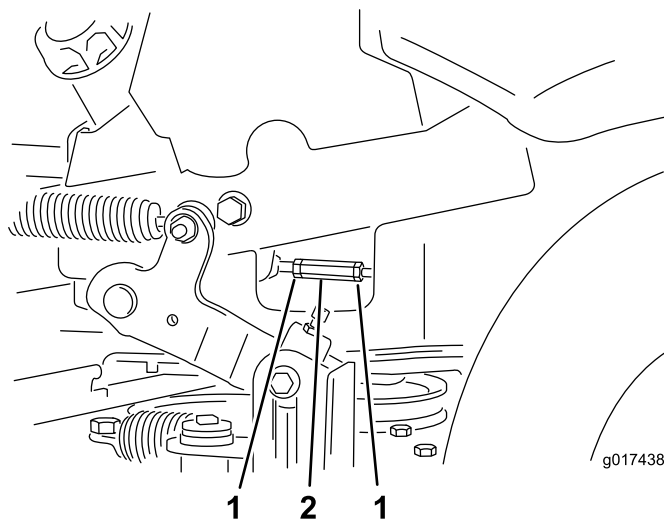

Figure 64
15. Bring the motion control levers into the neutral position. Adjust the pump control rods by loosening the two jam nuts and rotating the adjustment nut in the appropriate direction until the wheels slightly creep in reverse (Figure 64). Move the motion control levers to the reverse position and while applying slight pressure to the lever allow the reverse indicator springs to bring the levers back to neutral. The wheels must stop turning or slightly creep in reverse.
16. Tighten the two jam nuts against the adjustment nut (Figure 64).